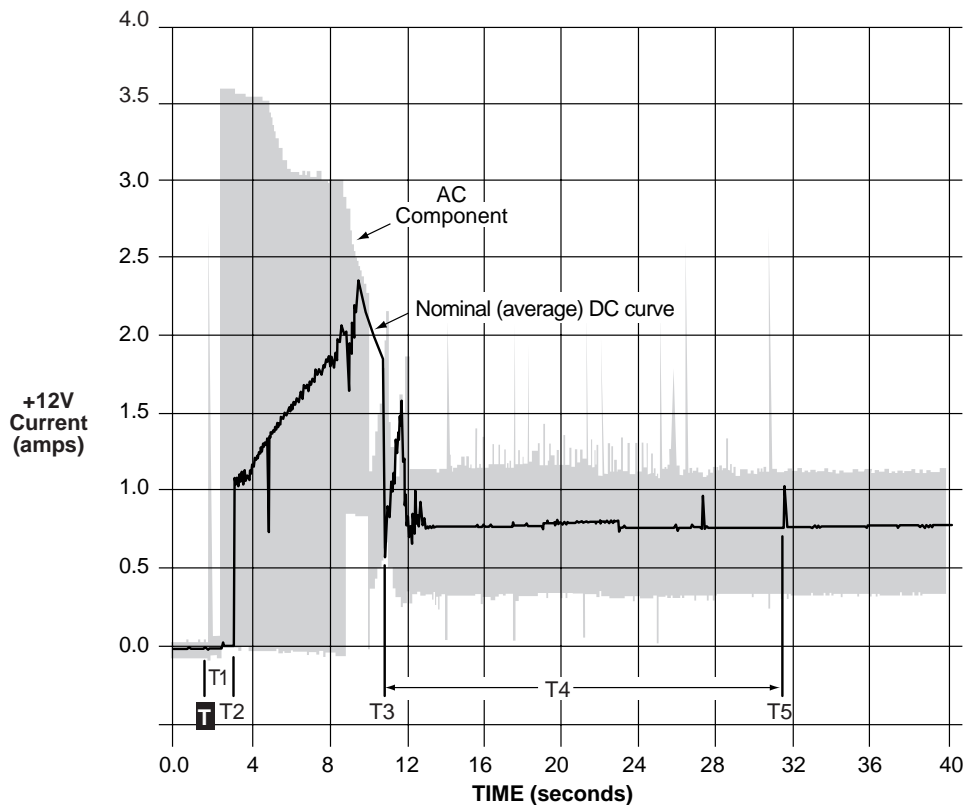

Figure 3. Typical Barracuda 18FC drive +12V current profile
- [3] See +12V current profile in Figure 3.
Figure 3 identifies the drive +12V current profile. The current during the various times is as shown: